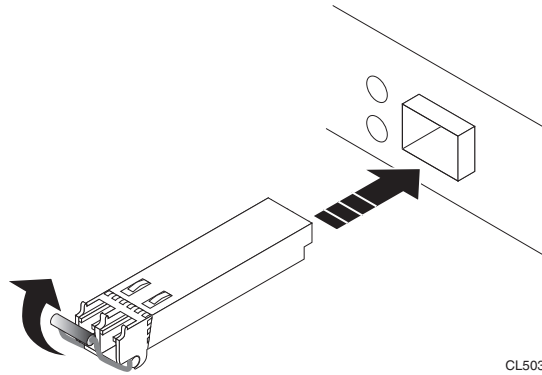

Figure 87 Installing an optical SFP module in a switch port
4. Install the replacement optical SFP module (**Figure 87**):